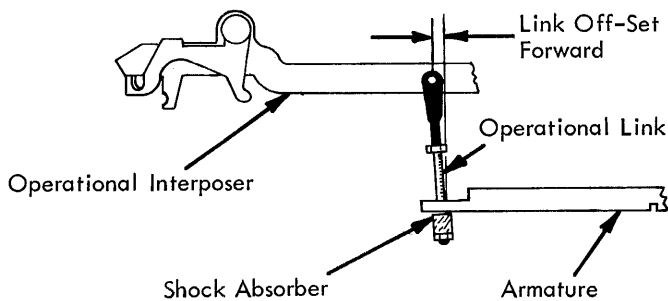

FIGURE 173.4. Front to Rear
b. Front to Rear - so that the armature link holes are slightly to the rear of the interposer link holes (Fig. 173.4).